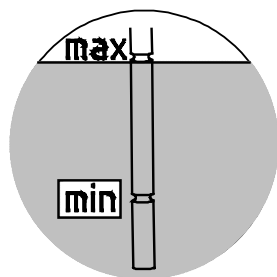

Figure 27: Checking the oil level with a dipstick
4. **Gear units with oil tank:** Der The oil level must be checked with the aid of the cap screw with dipstick (G1¼ thread) in the oil tank. The oil level must be between the top and bottom marking when the dipstick is fully screwed in (see Figure 27). Top up the oil level with the relevant type of oil as necessary. These gearboxes may only be operated in the mounting position stated in Section 7.1 "Versions and maintenance".